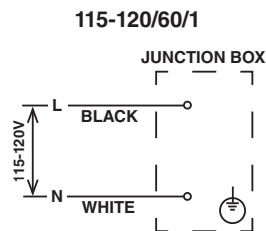

Fig. 12
- **Hard-Wired Models:** Hard-wired electrical connections must be made in accordance with the instructions on the "WARNING" tag, provided with the pig tail leads in the junction box. See Fig. 12.
NOTICE! Miswiring may result in severe damage to the appliance. See Fig. 12.